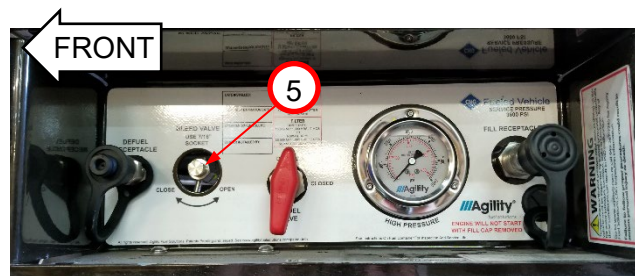

Figure 5:
10. Follow printed instructions to open bleed valve and open bleed valve (5). *Figure 5*